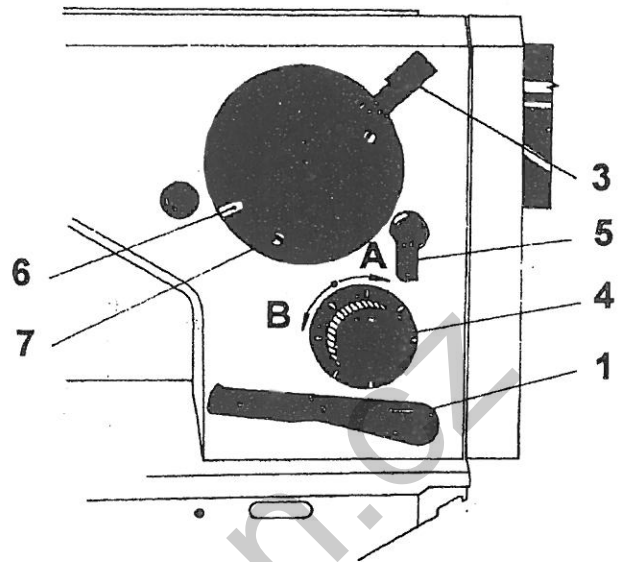

Fig. 7
### 1. Stitch length adjustment (Fig. 7)
**2. To adjust the zigzag stitch width (Fig. 7)**
**12. To adjust the length of feeding (Fig. 7)**